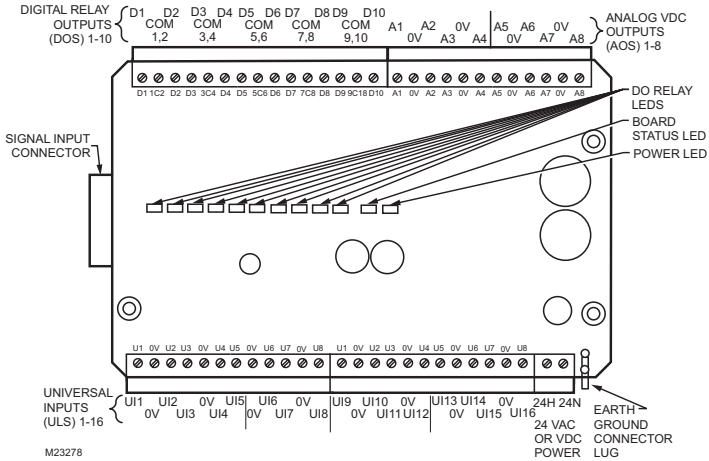

Fig. 3. WEB-IO-34 Wiring terminal locations.
The WEB-IO-34 module provides 16 universal inputs supporting analog inputs (temperature, resistance, voltage and current) and digital inputs (contact closure, pulse count) and 18 outputs: 10 relay (24 Vac/cd, 0.5 A max.) outputs and 8 analog outputs (0-10 Vdc). Wiring terminal positions are shown in Fig. 3 along with LED locations.
See Fig. 3 to locate connectors and other components on the controller.
A yellow LED status indicator for each relay (D1 - D10) is located on the board (Fig. 3), and also visible through the cover. Under normal operation, each digital status LED indicates activity as follows:
NOTE: Any time a powered WEB-IO module's status LED is not lit, all outputs are in "failsafe" state (all relay outputs OFF, and all AOs are at a 0-volt level). See Fig. 3 for location of the WEB-IO-16 status LED.
1. Plug in the 24 V connector plug to apply power. The WEB-IO-34 board and status LED will initially be Off (Fig. 3), but the Power LED on the WEB-IO-34 should be lit. Allow the controller sufficient time to boot (at least 2 minutes).